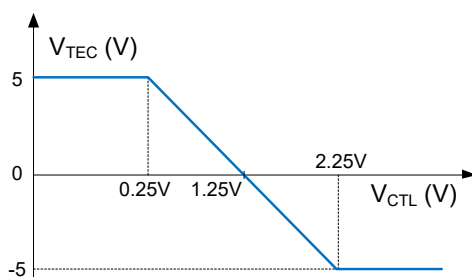

Figure 3. V_{TEC} Linear Relationship with V_{CTL}
A thermoelectric cooler is a heat pump that transfers the heat between its two surfaces depending on its voltage polarity. The TEC terminals are placed between the linear regulator (LDO) output (VOL) and the PWM regulator (synchronous buck) output. The buck output voltage is sensed by VOS pin. The buck external inductor is placed between the switching node (SW) and the TEC terminal that is connected to VOS. So, the TEC bipolar voltage is $V_{TEC} = V_{VOL} - V_{VOS}$. Both LDO and buck outputs can sink or source current up to 1.5A. V_{TEC} is controlled to have a linear relation with the V_{CTL} input but is limited to the lower of V_{IN} and V_{LIM} as shown in Figure 3.